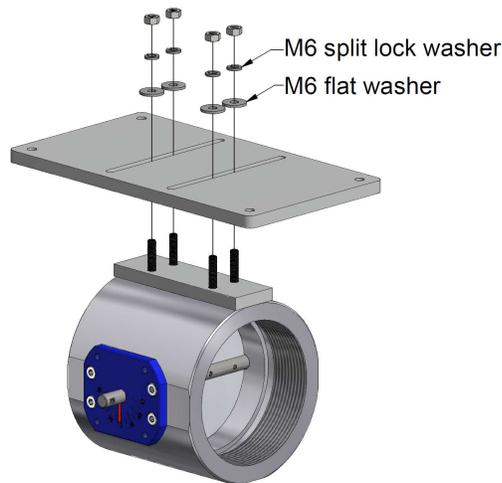

Figure 3: Actuator Mounting Bracket Installation
3. Place the actuator mounting bracket on top of the spacer bracket so that the M6 socket set screws fit through the two slots in the actuator mounting bracket. The slots in the bracket allow the HercuLine actuator to be moved in or out relative to the butterfly valve. Move the bracket to the desired position to connect a linkage between the butterfly valve and the HercuLine actuator. Using a 10mm open end wrench (or crescent wrench), the (4) oversized M6 flat washers, the (4) M6 split lock washers, and the (4) M6 hex nuts, tighten the actuator mounting bracket to the spacer bracket as shown in Figure 3. This bracket can always be adjusted later if necessary.